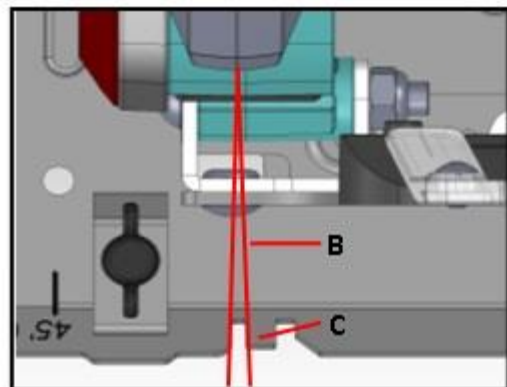

Fig.13
3. Calibrate the saw with the laser by adjusting the guide plate bevel scale to 0° when the laser is aligned with the appropriate notch on the guide plate. **Fig.13.**